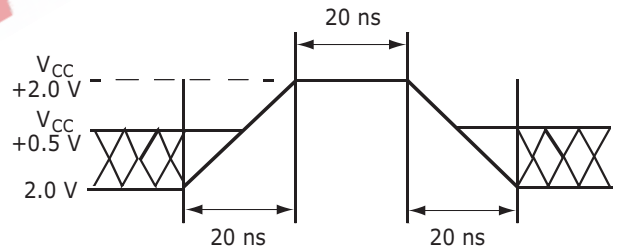

Figure 9. Maximum Positive Overshoot Waveform
1. Minimum DC voltage on input or I/O pins is -0.5 V. During voltage transitions, input at I/O pins may overshoot V_{SS} to -2.0 V for periods of up to 20 ns. See 9. Maximum DC voltage on output and I/O pins is 3.0 V. During voltage transitions output pins may overshoot to $V_{CC} + 2.0$ V for periods up to 20 ns. See Figure 9.